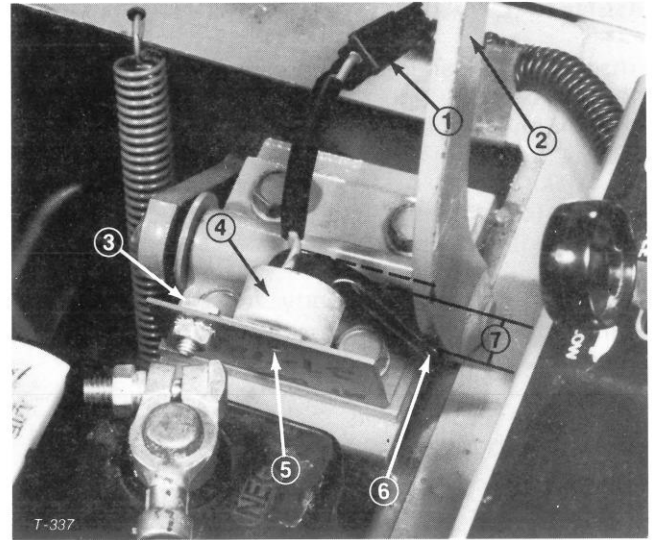

Figure 35
2. Disconnect negative battery cable from battery and separate wire harness connectors (Fig. 35).
3. Move PTO lever to the ON position. Then remove capscrew and locknut holding switch against mounting bracket (Fig. 35).
4. Install new switch with capscrews and locknut. Move PTO lever to OFF position. When lever is in its normal, released position, the switch arm must bend about 1/2 inch (13 mm) (Fig. 35). If switch arm does not bend 1/2 inch (13 mm), bend the mounting bracket to get the correct adjustment.